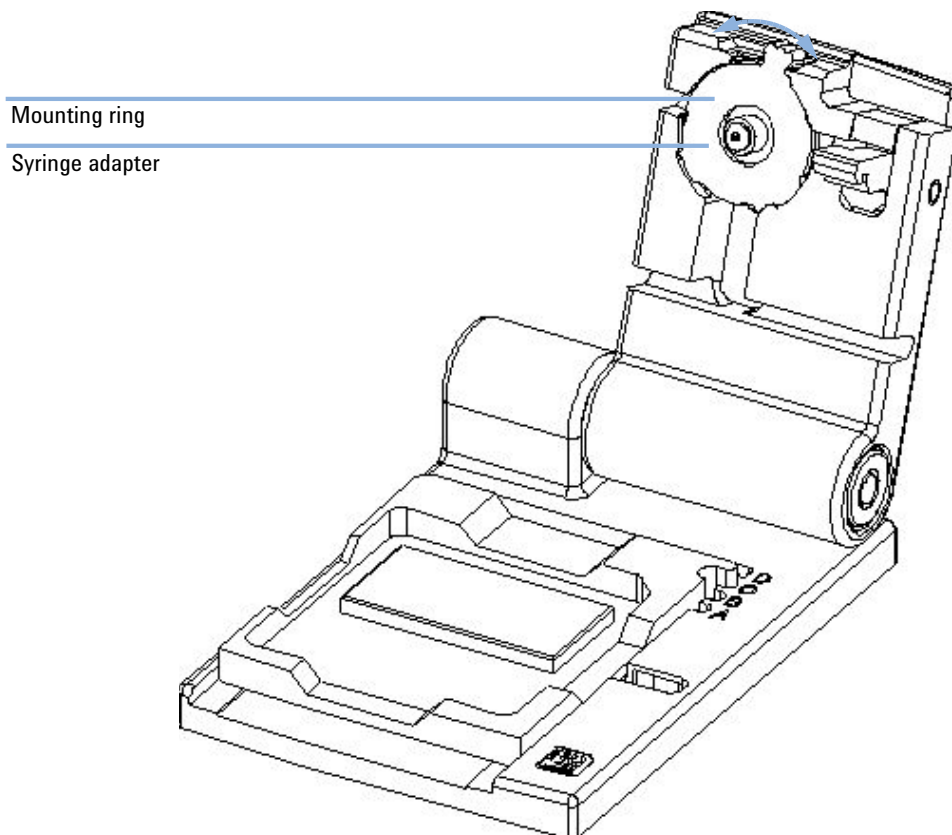

Figure 4 Mounting ring of the syringe adapter
- 2 Move the mounting ring holding the adapter in place to the left as shown in Figure 4 on page 129. The ring will come off.